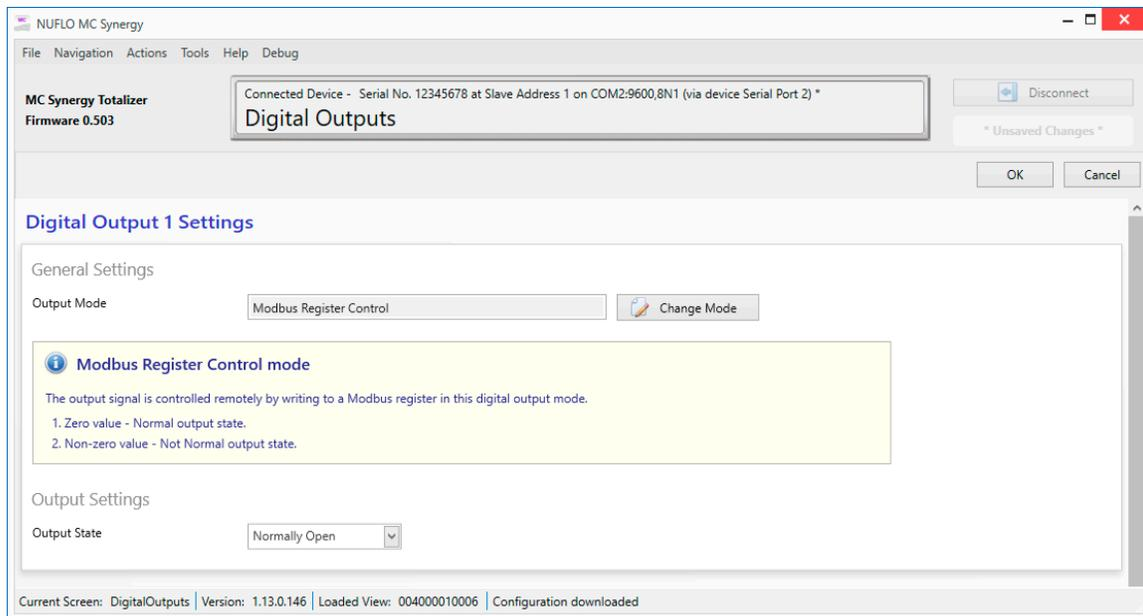

Figure 8.10—Modbus Register Control screen
- Modbus Register Control. (Figure 8.10, page 79) This setting allows the digital output to be controlled via Modbus, where a value of “0” will give the normal output state, and “1” will give the activated state